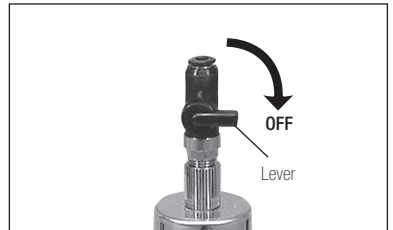
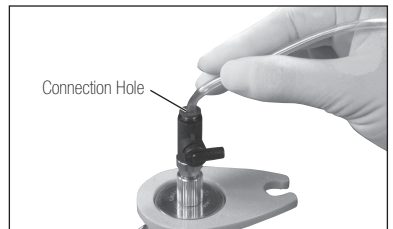

Fig. 5
Fig. 6
- (1) Turn the ON/OFF Valve lever to the OFF position. (Fig. 5)
- (2) Hold the upper part of the PANA SPRAY Plus firmly.
- (3) Insert the Coil Tube into the Connection Hole of the ON/OFF Valve until you can feel it stop. (Fig. 6)
- (4) With more force, push the Coil Tube in until it is completely inserted.